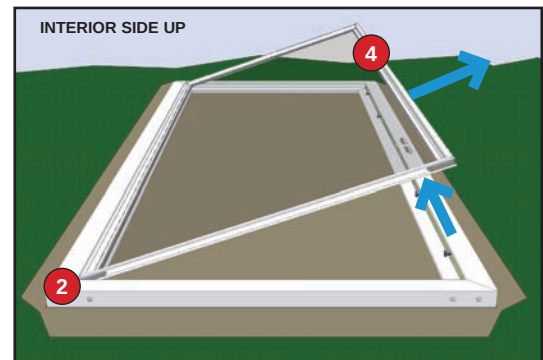

Figure 6
4. Reach under the side of the door frame near the handle holes and gently push up on the glass panel until you are able to firmly grasp onto it (Figure 6).